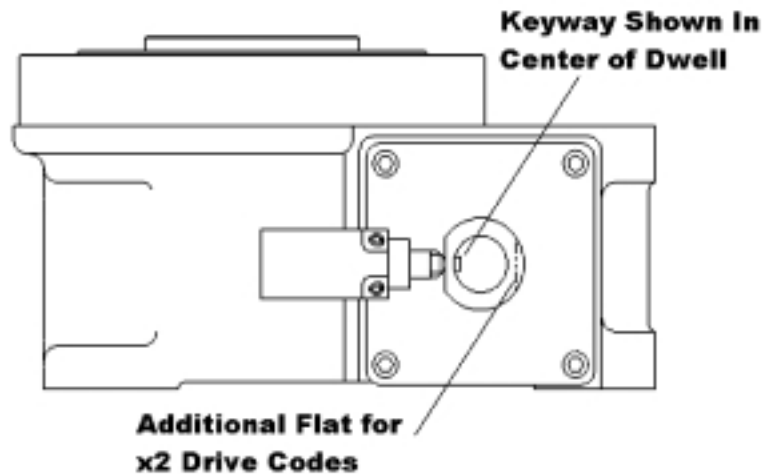

FIGURE 5 - PINNACLE SERIES
4.1.1. Rotate camshaft so cam is in center of dwell (see figure 5 and 6).
- 4.1.7. Check the adjustment of the Switch cam if your unit has this option. To insure unit stops in dwell, see Figures 5 and 6.
- 4.1.7.1. A standard roller gear indexer shown in Figure 5 with a Brake Cam & Limit Switch shown with the keyway in the center of the dwell period. It is necessary to phase the Brake Cam such that the input shaft of the indexer stops during the dwell period of the index cycle while leaving enough of the dwell period for the input shaft to accelerate to full speed before leaving the dwell period.